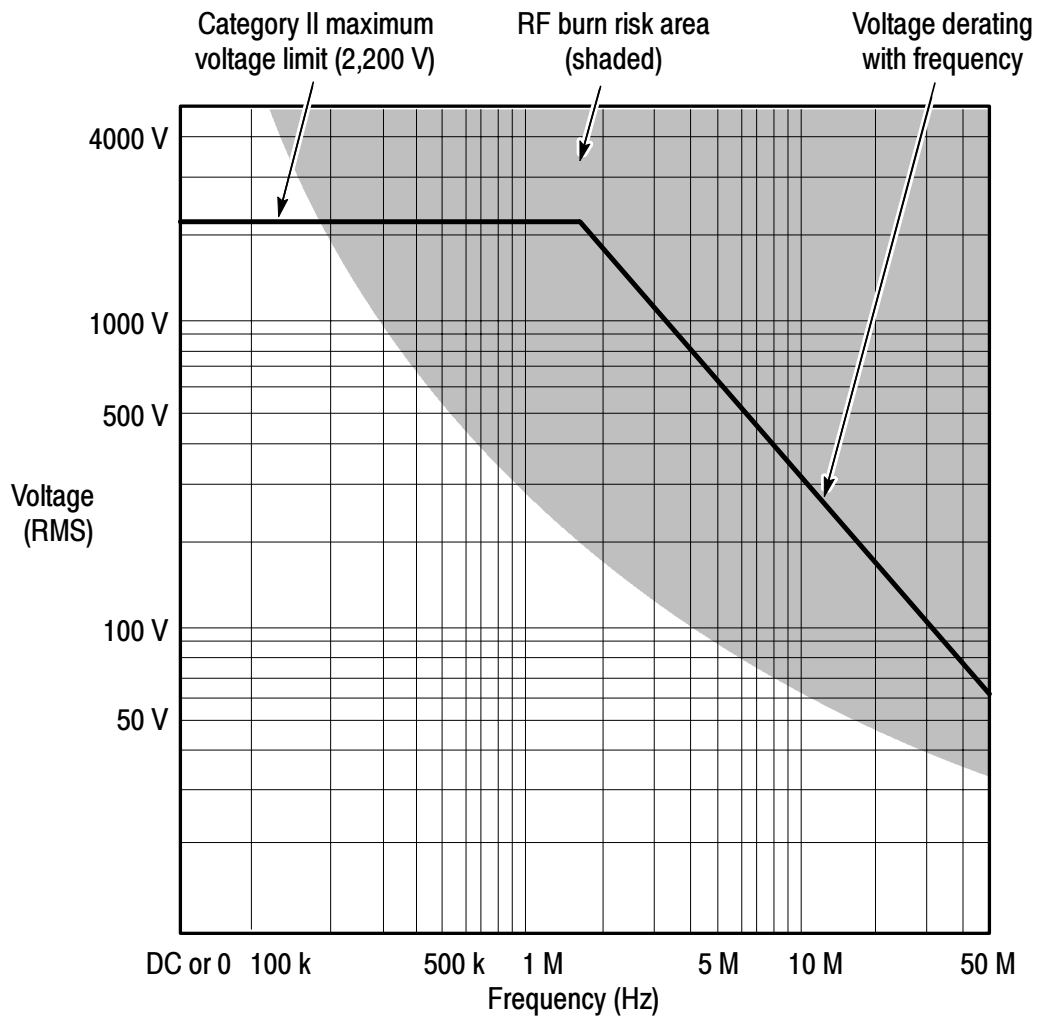

Figure 4: Safety limits (voltage between either input and earth ground)
| Maximum rated input voltage (Refer to Figure 4 on page 9) | |
WARNING. To avoid personal injury, do not handle the probe leads when the leads are connected to a source that is in the voltage and frequency range indicated by the shaded area in Figure 4. This area of operation poses a risk of radio frequency (RF) burns.